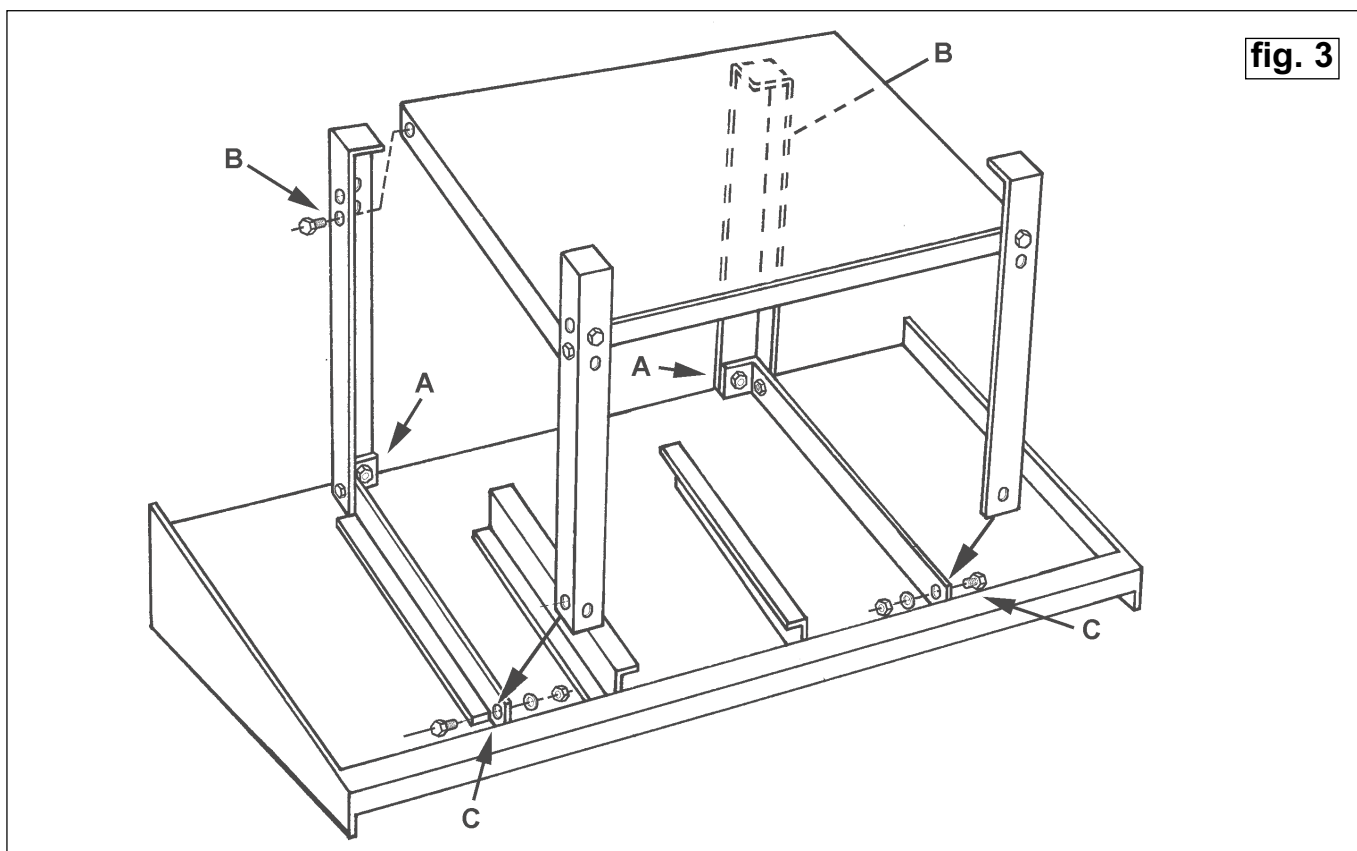

fig. 3
- 3.4 Put some protective material onto the floor and place the bench top face down on top of it. Refer to fig.3. Attach the remaining two legs to the back edge of the upturned bench using the nuts, bolts and washers provided, as shown in fig.3-A.
- 3.5 Now lift the shelf with the legs attached and stand it on to the upturned bench top so that the legs go between the inner edge of the bench and the supports and the back edge of the shelf rests inside the legs already attached to the bench as shown in fig.3. Ensure that you have adequate help to do this.
- 3.6 Attach the back edge of the shelf to the rear legs using two sets of fixings on each leg. These fixings go in the holes furthest away from the feet. (See fig.3-B.)
- 3.7 Now bolt the front legs to the cross members on the underside of the bench top. The legs should be on the outside faces of the cross members as indicated on fig.3-C. All fixings should be hand tight at this stage.